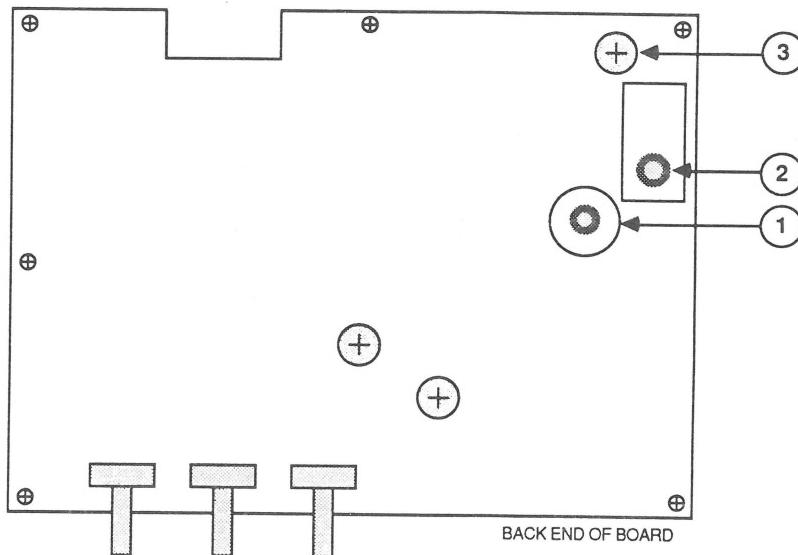

FIGURE 14
1. If the picture on the tube is not locked and centered, or if it is tearing, adjust pot R406 (see Figure 14, #3). Be careful on this adjustment, as you will be physically close to the anode and anode lead in reaching the pot.
- 4. In most units, the coil L402 (see Figure 14, #2) will be preadjusted and sealed at the factory and you won't be able to change it. In this case, proceed to step 5 and see if the width adjustment will help the linearity. If you do have a unit with an adjustable coil, use the square plastic adjustment tool and turn it until the linearity looks correct. If you have adjusted the coil as far as it will go and the linearity is still wrong, proceed to the width adjustment, step 5.
- 5. Check the width of the image on the screen. If it looks too narrow or too wide, then use the hex adjustment tool and adjust L401 (see Figure 14, #1) until the desired width is obtained. The image should be an equal distance (approximately 1/2 inch) from each side of the screen, and yet not squeezed together. If the linearity is wrong on one side, this adjustment might correct it. Remember that this is not a centering adjustment; don't squeeze the image just to get it centered.